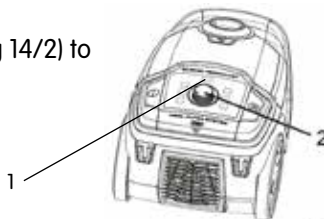

Fig.14
You can adjust the suction power to suit the type of floor being cleaned. Use the symbols on the suction power display as a guide (Fig 14/1):
1. To set the power level, turn the knob (Fig 14/2) to the desired setting.
Replace the dust filter bag as soon as the electronic dust filter bag replacement indicator (Fig. 14/1) shows red or the suction power has decreased.